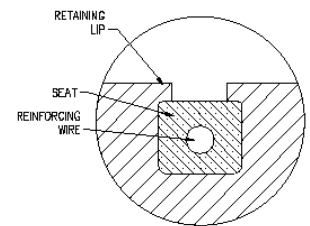

Figure 5
7. Once the seat is positioned under the retaining lip, as in Figure 5, use a blunt piece of wood or plastic to gently tap the seat to the bottom of the seat trough.